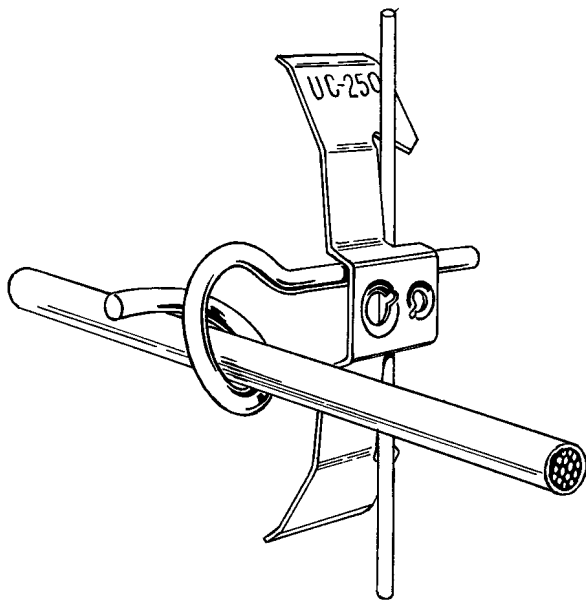

FIGURE 3
- e. Apply pressure in the required direction until the support member rests against the inside corners of both slots. See Figure 3.